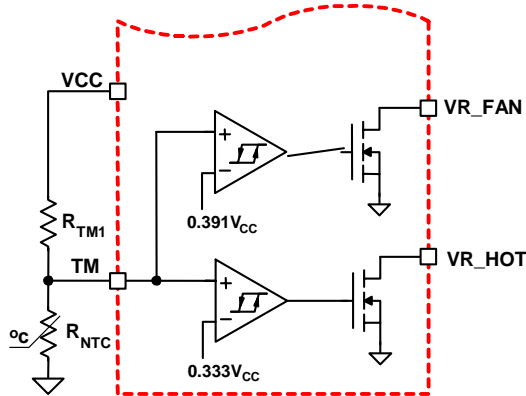
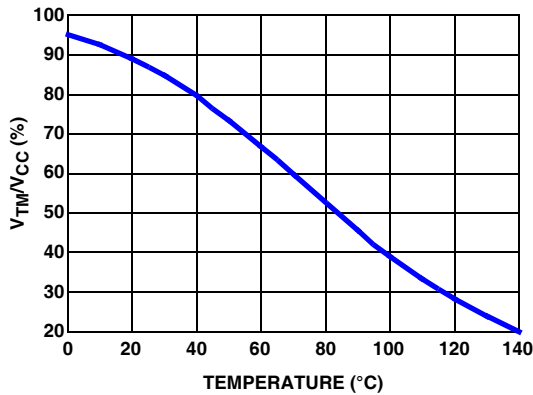

FIGURE 12. BLOCK DIAGRAM OF THERMAL MONITORING FUNCTION
FIGURE 13. THE RATIO OF TM VOLTAGE TO NTC TEMPERATURE WITH RECOMMENDED PARTS
The diagram of thermal monitoring function block is shown in Figure 12. One NTC resistor should be placed close to the power stage of the voltage regulator to sense the operational temperature, and one pull-up resistor is needed to form the voltage divider for the TM pin. As the temperature of the power stage increases, the resistance of the NTC will reduce, resulting in the reduced voltage at the TM pin. Figure 13 shows the TM voltage over the temperature for a typical design with a recommended 6.8kΩ NTC (P/N: NTHS0805N02N6801 from Vishay) and 1kΩ resistor RTM1. We recommend using those resistors for the accurate temperature compensation.
Based on VCC voltage, ISL6334AR5368 converts the TM pin voltage to a 6-bit TM digital signal for temperature compensation. With the non-linear A/D converter of ISL6334AR5368, the TM digital signal is linearly proportional to the NTC temperature. For accurate temperature compensation, the ratio of the TM voltage to the NTC temperature of the practical design should be similar to that in Figure 13.
1. Properly choose the voltage divider for the TM pin to match the TM voltage vs temperature curve with the recommended curve in Figure 13.